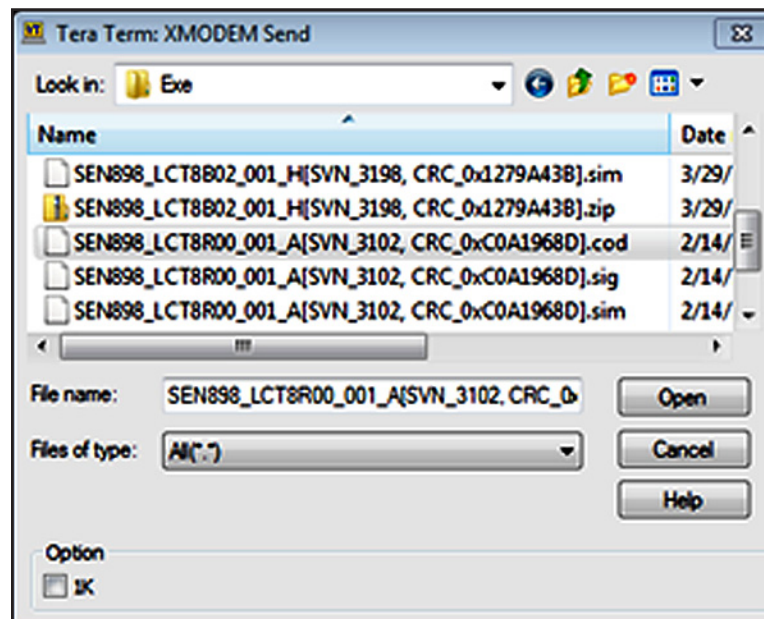
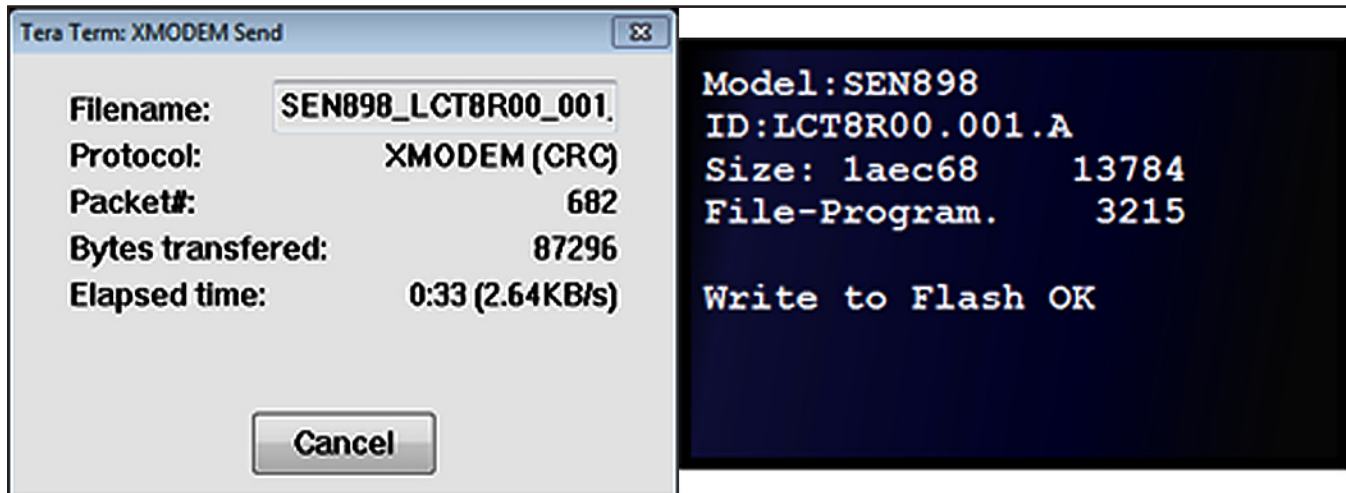

Figure 8: XMODEM Send File Selector
Figure 9: XMODEM Send Status (Left) and Meter Display File Receive Status (Right)
6. When the *Tera Term: XMODEM Send* file selector window opens (see *Figure 8* below), locate and select the **.cod** extension file from your PC. After selecting the **.cod** extension file, click **Open** and the status window shown on the left in *Figure 9* on page 98 opens. At this time, the meter display shows the *file receive status* (see the right of *Figure 9* on page 98).